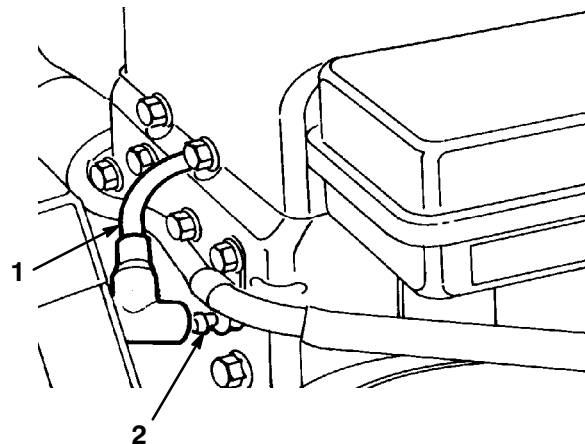

Figure 23
2. Pull the wire off of the spark plug (Fig. 23). Clean around the spark plug to prevent dirt from falling into the engine and potentially causing damage.
3. Push the wire onto the spark plug (Fig. 23).